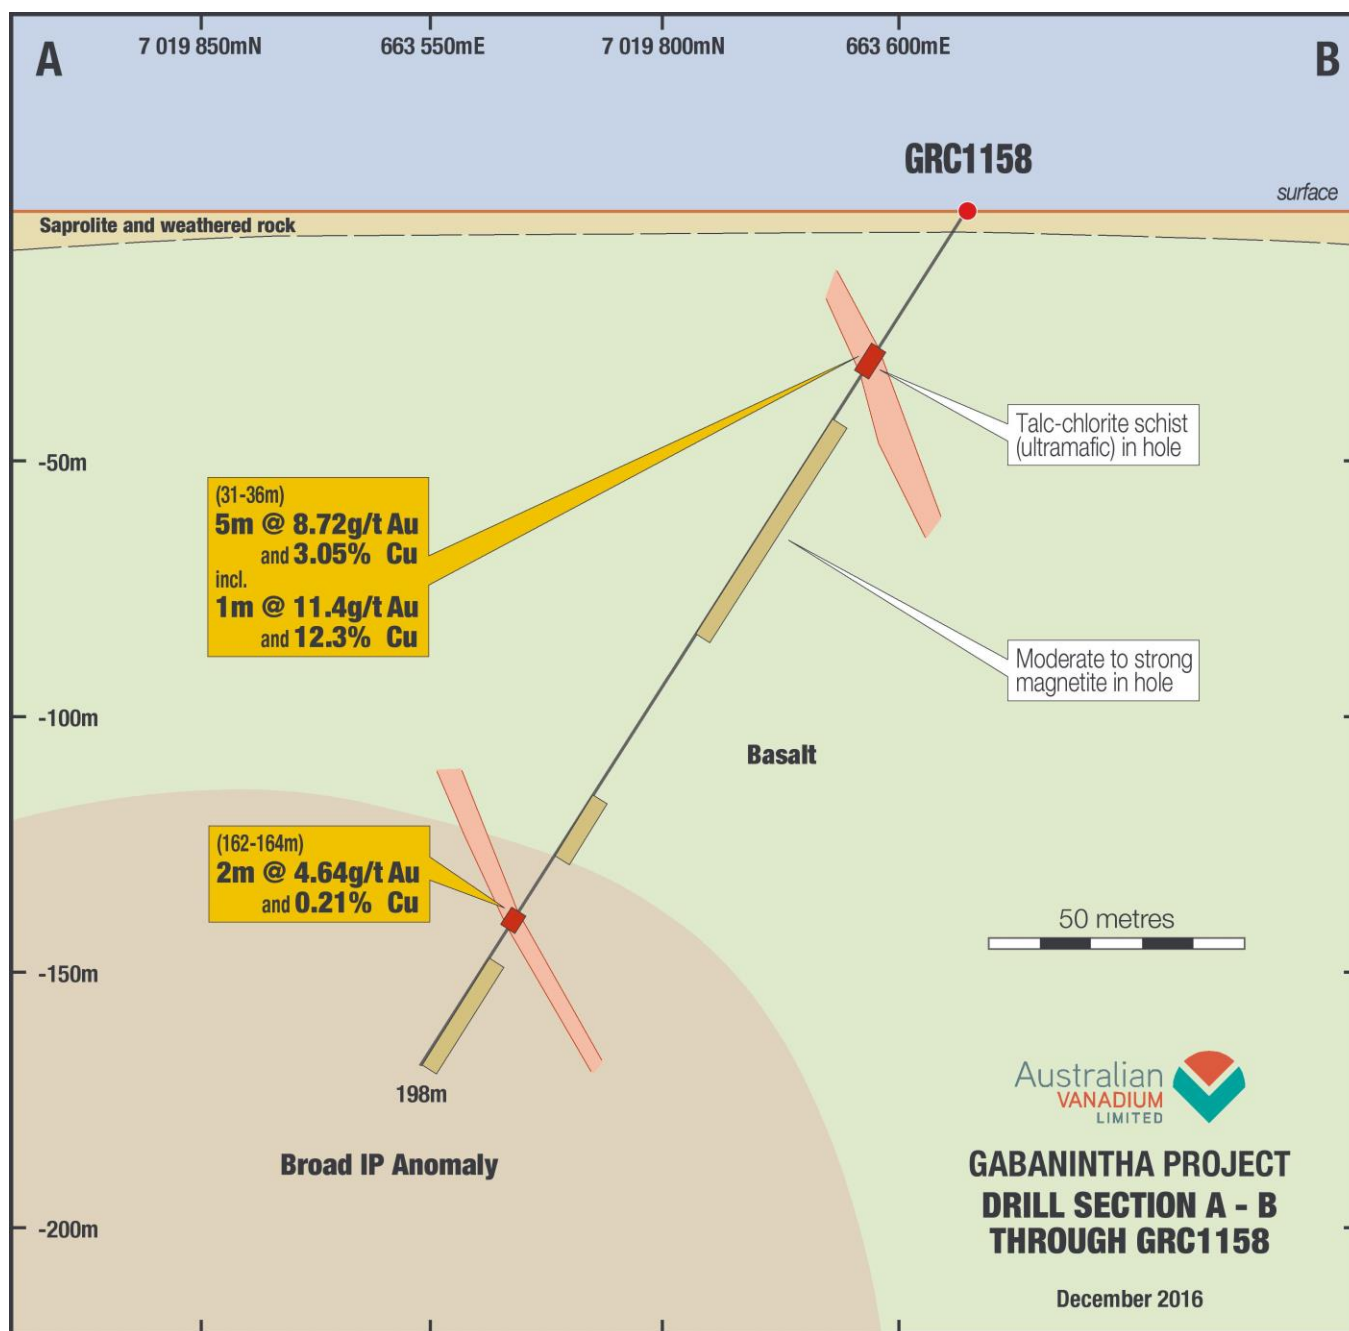

Figure 4 – Drill Section through RC GRC1158
- **GRC1158:** 5 metres (31 - 36m) @ 8.72g/t Au and 3.05% Cu, including 1m (32 - 33m) @ 11.4g/t Au and 12.3% Cu. GRC1158 was drilled to test a southwest – northeast trending structure where a line of historical workings is present (see Figure 4).